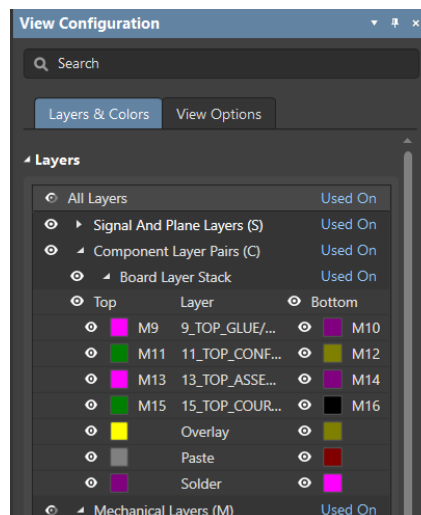

Figure 12. Component Layer Pairs.
- c) Paired mechanical layers won't appear in the Mechanical Layers section but will be shown in the Component Layer Pairs section. Mechanical layers from 9 to 16 have been paired, as shown in Figure 12.